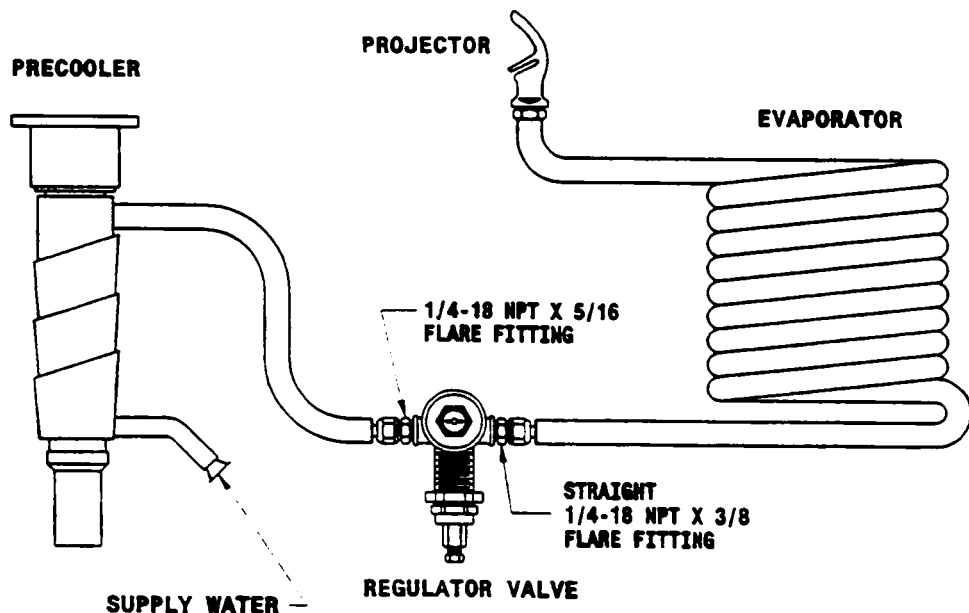

Fig. 1
7. With tubing cutter, cut line going to chiller inlet (see fig.1) approximately 6" from joint.